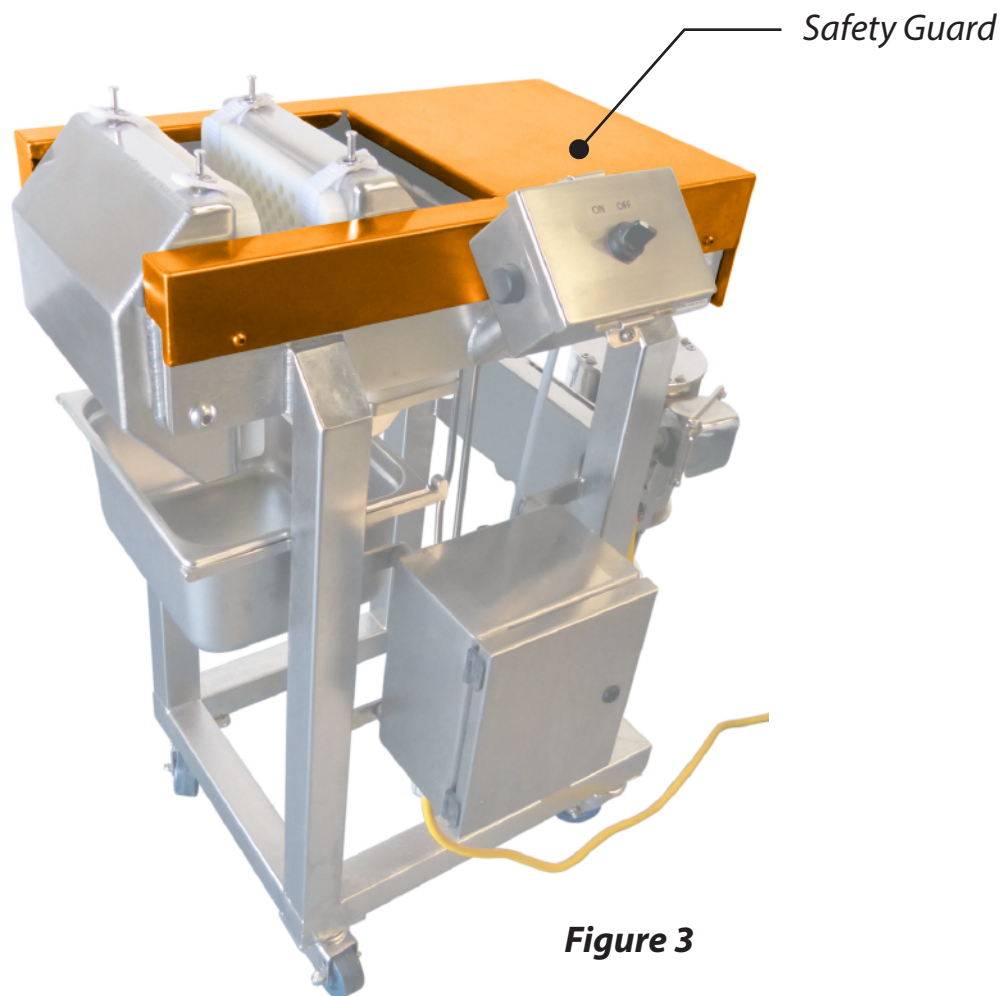

Figure 3
1. The Model 25 Juice Press has guarding designed to shield the operator from hazards associated with the hydraulic system (**Figure 3**). These guards are removable for cleaning (See Section E), but should be replaced and fastened down before the machine is powered on and operated. **DO NOT** attempt to run the press without the safety guarding installed.